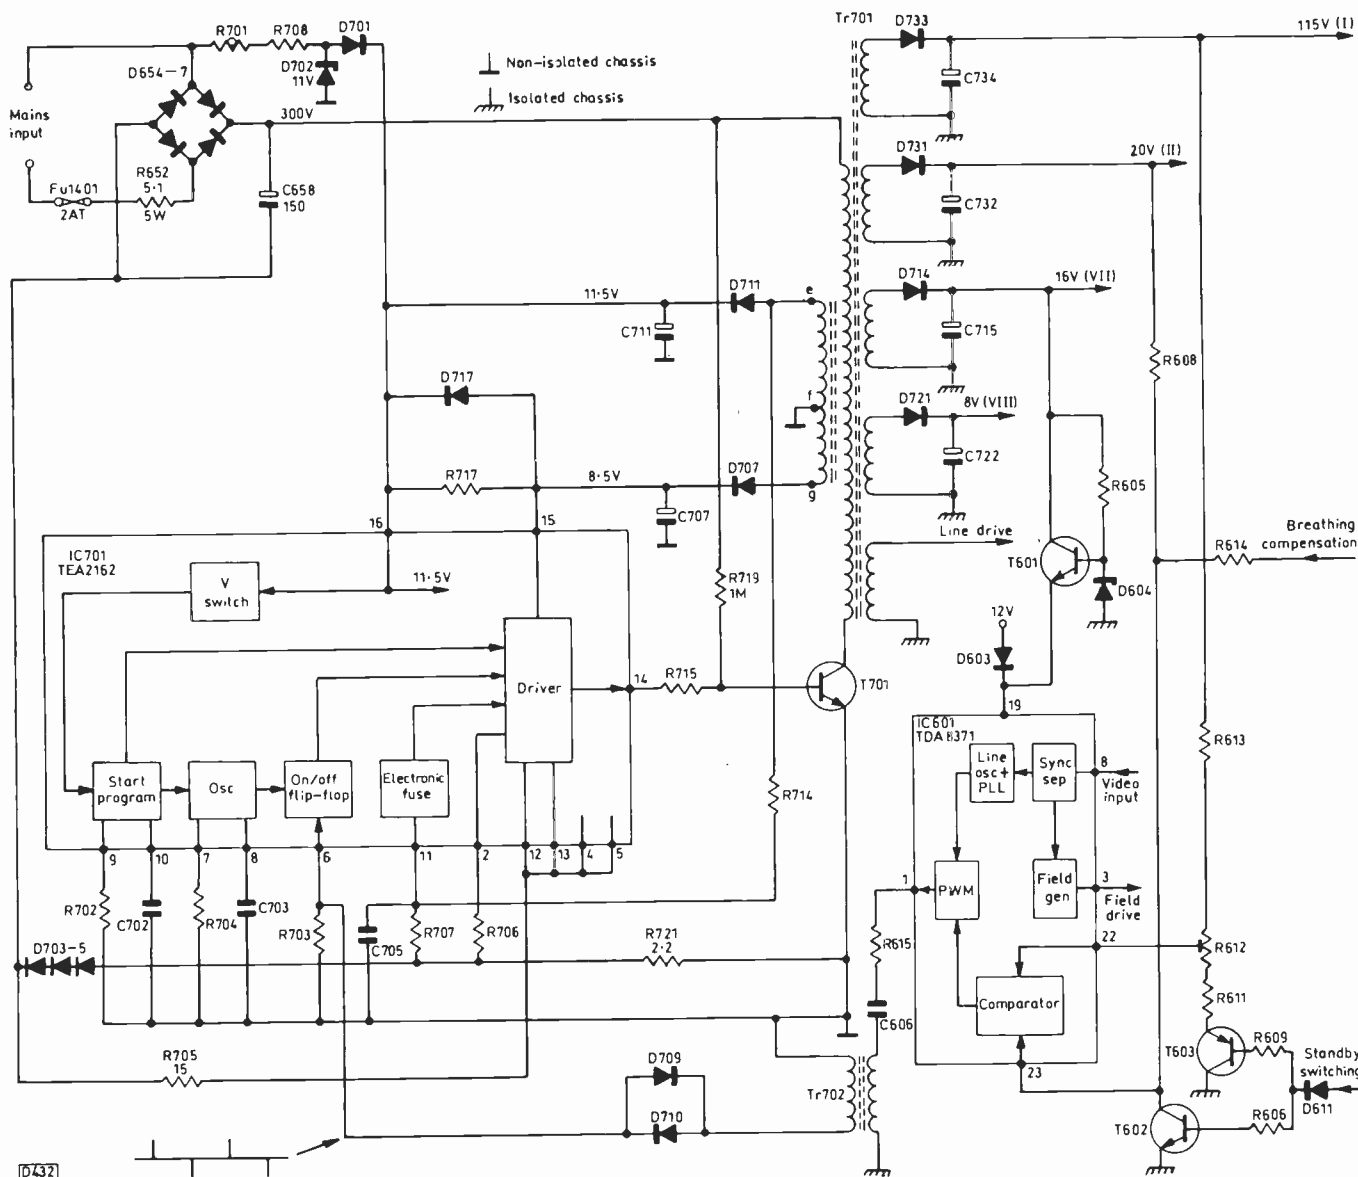

Fig. 1: Simplified block/circuit diagram showing how the chopper power supply and the standby switching system in the ITT Monoprint B chassis operate.
We'll now return to the Monoprint B chassis to see how the power supply works. A simplified block/circuit diagram to illustrate the principle of operation is shown in Fig. 1.
The standby control pin (5) is connected to the bases of transistors T602 and T603 (see Fig. 1). When the standby output is high, T602 switches on and the chopper drive pulses at pin 1 of IC601 are only 3.5µs wide. This reduced drive lowers the output voltages produced by the chopper circuit. The high output from IC1402 switches T603 off: the purpose of this arrangement is to reduce the output voltages slowly. In normal operation pin 5 of IC1402 is low, T602 is off and T603 is on.